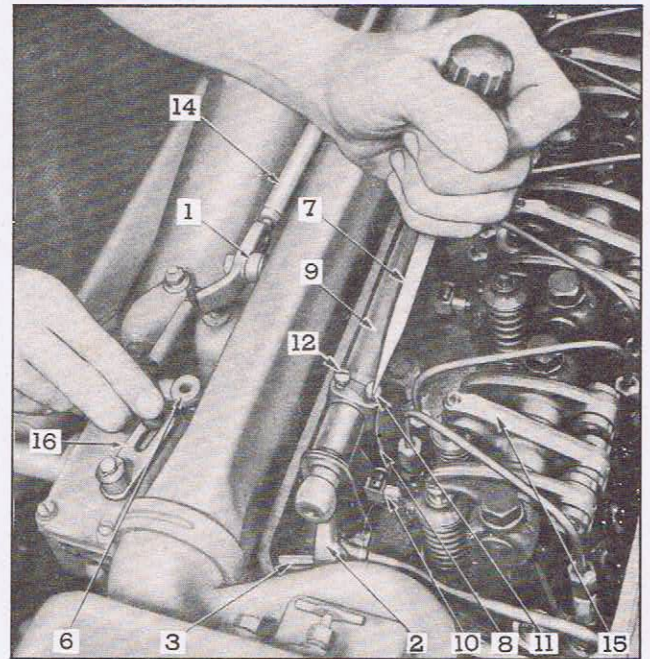

FIG 5—POSITIONING RACK OF NO. 1 INJECTOR ON "TWIN" ENGINE EQUIPPED WITH VARIABLE SPEED TYPE GOVERNOR.
- (a) Secure the speed control lever (1) in the FULL OPEN position (all the way back) as shown in Fig. 5. Place control lever (6) in the OFF position.
- (b) Turn down inner adjusting screw (11) on No. 1 injector rack control lever (8) until screw "bottoms".
(c) Move the governor control lever (6) toward the RUN position at the end of the governor cam (16) as shown in Fig. 5. Do not force it past the point at which resistance to movement suddenly increases, but hold it at this point, pressing lightly toward the RUN position.
(to aft end of slot in cam (16), as shown in Fig. 5), then note rotary movement of No. 1 injector rack to rack control lever (8).
1. If a light pressure of the finger tip shows the rack to be tight, and the governor control lever (6) is free to travel to the extreme end of the slot in the governor cam (16) without encountering any step-up in resistance, *the rack control lever (8) has been properly adjusted.*
2. If a light pressure of the finger tip shows the injector rack to be tight and the governor control lever (6) is not free to travel to the extreme end of the slot in cam (16), unless the step-up in resistance is overcome, the rack is too tight and the adjustment should be corrected by loosening the inner screw slightly and tightening the outer screw.
- (a) Secure the governor control lever (6) in the RUN position.
- (b) Adjust No. 2 injector rack by turning down inner adjusting screw (11) while finger tip is touching No. 2 injector rack coupling. When coupling loses its rotary movement, tighten outer screw (12) and relock with inner screw (11).
- (e) Reconnect linkage to the governor control lever (6).